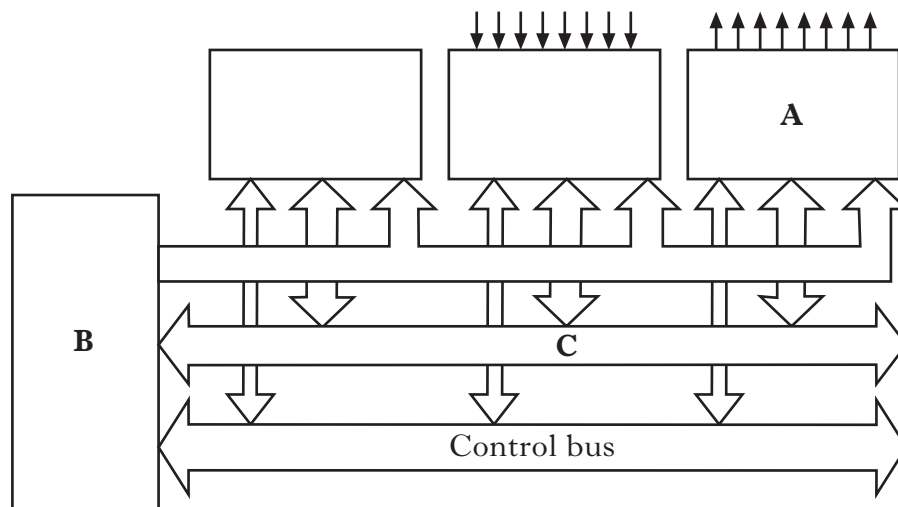

Figure Q2
2. The diagram in Figure Q2 shows the basic architecture of a microcontroller. Some elements have been labelled with the letters A, B and C.
- (a) State which **one** of the rows in the Table Q2(a) correctly lists the names of the elements labelled A, B and C in Figure Q2.